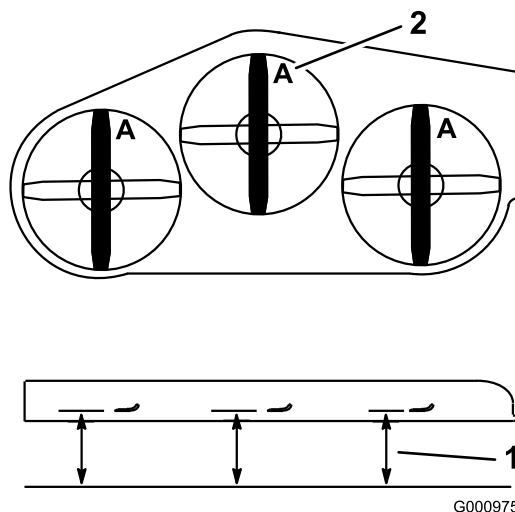

Figure 99
3. Rotate the blades until the ends face forward and backward (Figure 99). Measure from a level surface to the cutting edge, position A, of the blades (Figure 99). Note this dimension.